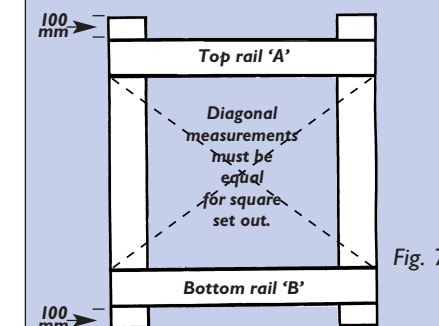

Fig. 7
Overhang of pickets or boards over bottom rail should be 100 mm (Fig. 7 and 10).
Measure the height and width of the gate to determine the lengths that you will require and cut rails (A and B) and face boards (C) to suit (Fig. 7).
Place rails on flat surface parallel at required distances and single nail two extreme outside boards to rails allowing for 100 mm overhang over bottom rail (Fig. 7).
Turn gate over and square the rails (diagonal measurements must be equal for a square set-out) and fix securely (Fig. 7).